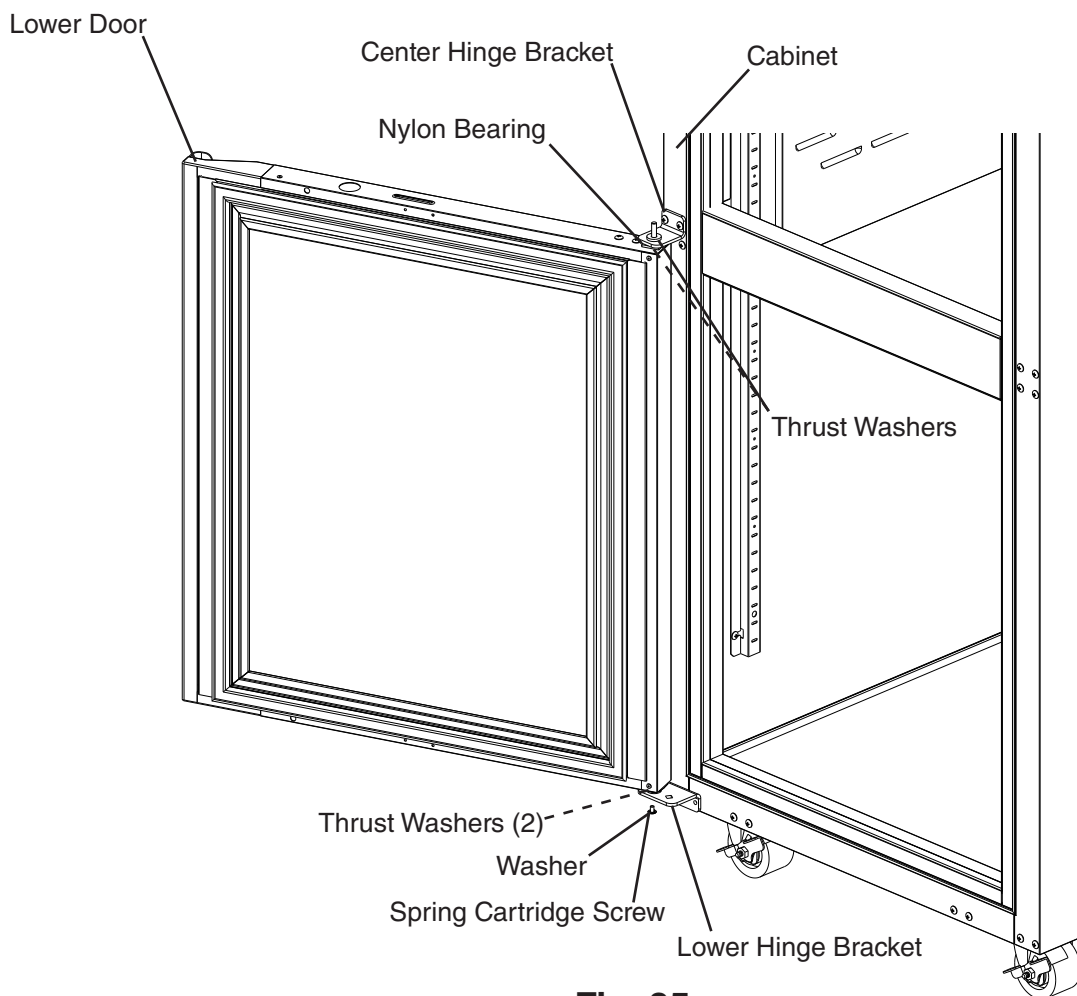

Fig. 35
- 14) Secure the door to the lower hinge bracket using the spring cartridge screw and washer. Note: Be sure thrust washers (2) are in place between lower hinge bracket and door. See Fig 35.